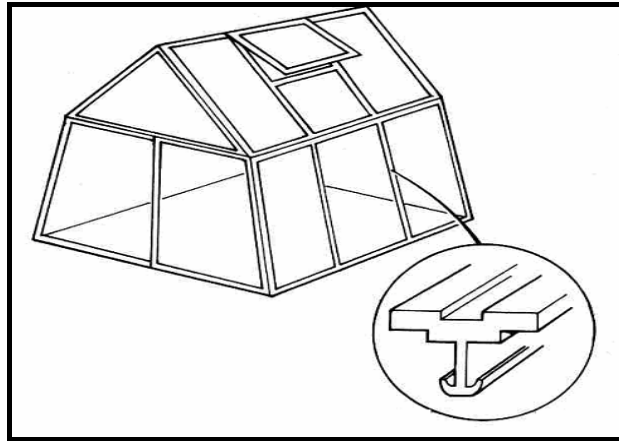

FIGURE 4.1
- 4.1 Some structural frames are assembled from stainless steel sections as shown in FIGURE 4.1 below. Which TWO properties of stainless steel make it unnecessary for the frame to be painted?